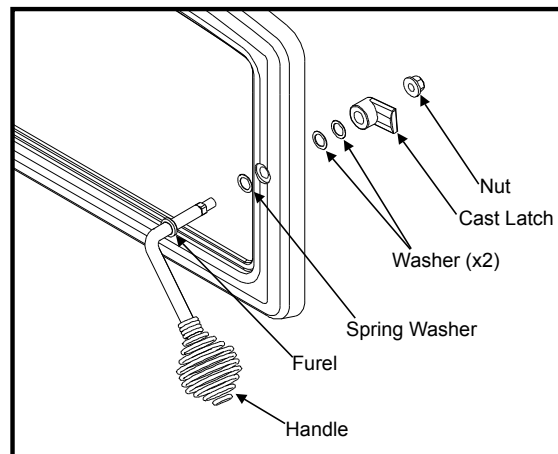

Figure 42: Installation Door Handle Hardware.
1. Install door handle as shown in Figure 42.